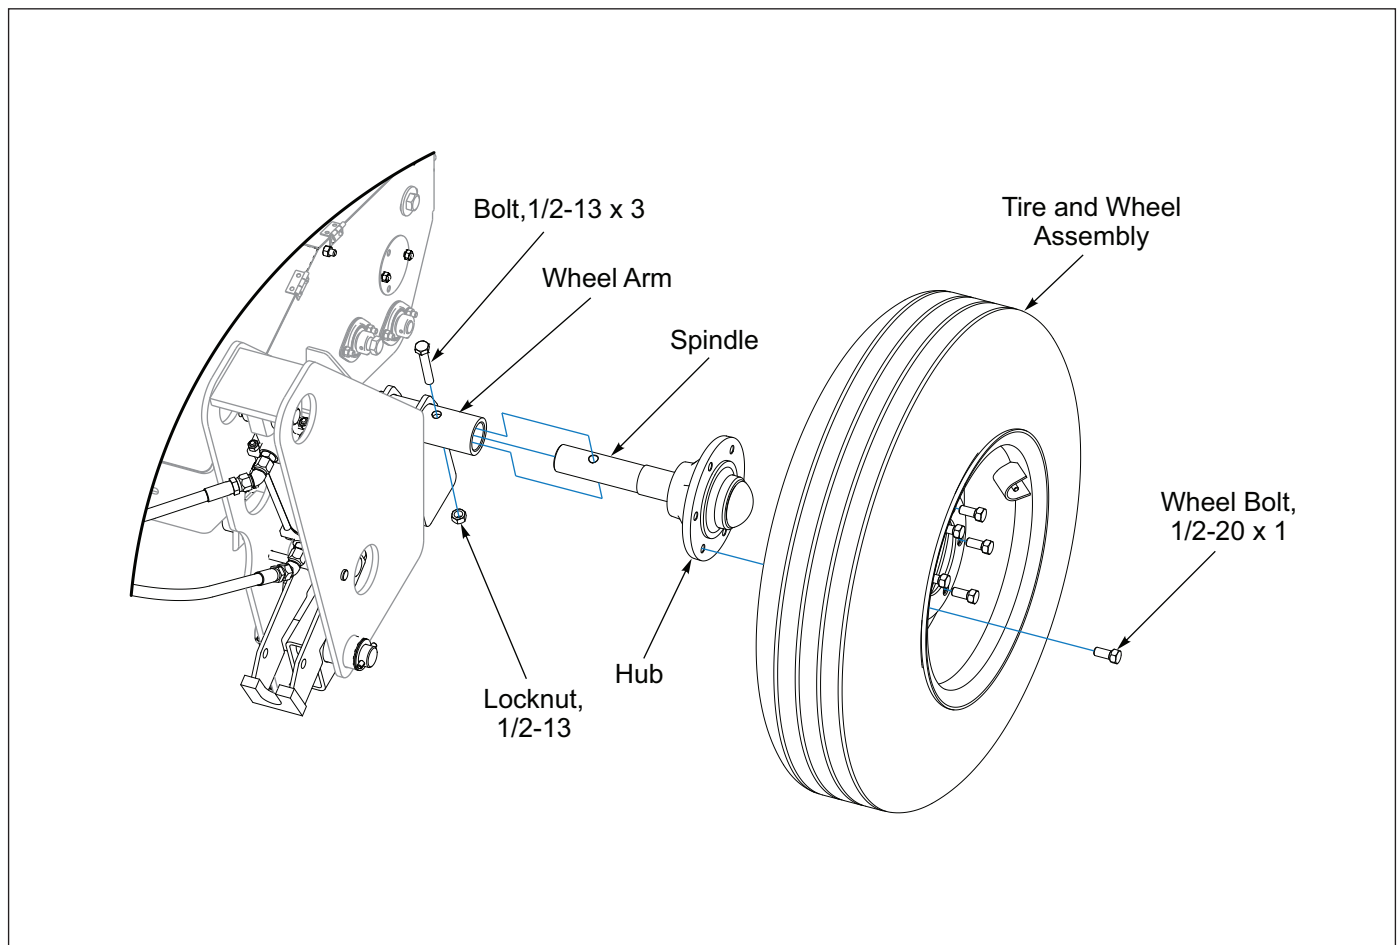

Figure 2-12: Hub and Spindle
5. Apply anti-seize to Spindles and insert a Hub and Spindle Assembly into each Wheel Arm. Secure in with 1/2-13 x 3 Bolts and Locknuts. **See Figure 2-12.**
6. Apply anti-seize to Spindles and insert a Hub and Spindle Assembly into each Wheel Arm. Secure in with 1/2-13 x 3 Bolts and Locknuts. **See Figure 2-12.**